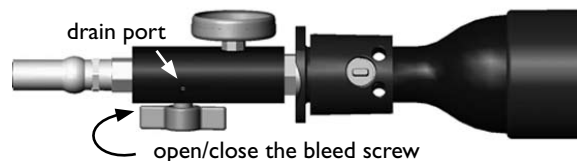

Figure 8h - Control the air in the Filler Hose with the Bleed Screw
4. Ensure that the red Bleed Screw on the Streamline Filler Hose Assembly is closed, by turning in a clockwise direction. (Fig. 8h)
10. Next, locate the drain port adjacent to the red Bleed Screw on the Filler Block. (Fig. 8h)